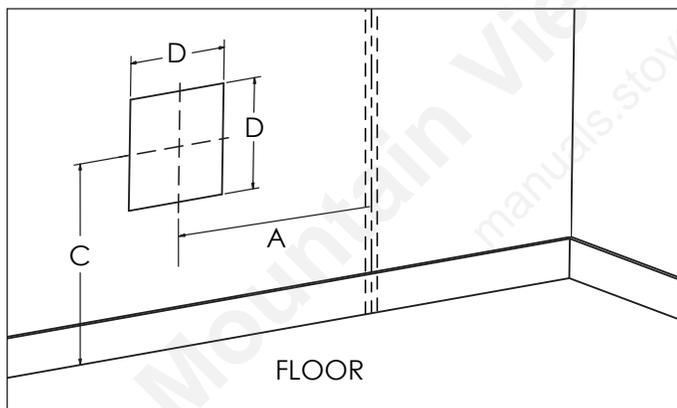

Figure 4
- Cut the square hole through the wall according to the measurements and positions indicated in figure 4 and 5.